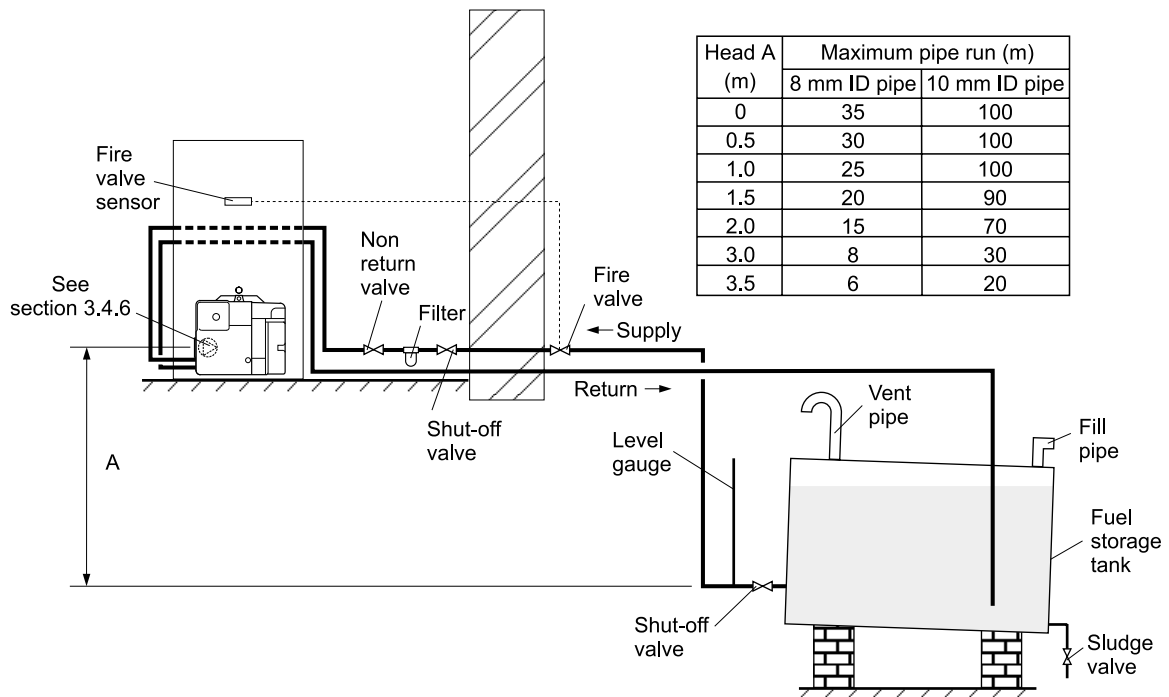

Fig. 4 - Two pipe system
3.4.4 Two pipe system - (See Fig. 4)
- 1 When the storage tank outlet is below the burner, the two pipe system should be used. The pipe runs should be as shown in Fig. 4. The return pipe should be at the same level in the tank as the supply pipe, both being 75 to 100 mm above the base of the tank. The pipe ends should be a sufficient distance apart so as to prevent any sediment disturbed by the return entering the supply pipe.